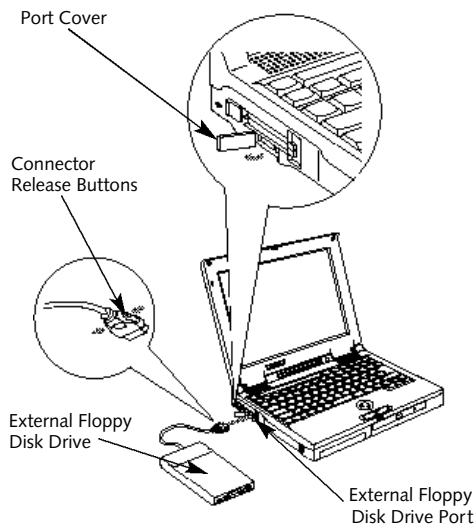

Figure 4-6 External Installation of a Floppy Disk Drive
3. Open the external floppy disk drive port cover on the left side panel of your notebook (Figure 4-6), by gently pulling on the front edge of the cover and swinging it toward the back of your notebook.
4. Align the external floppy disk drive cable with the smaller connector towards the body of your notebook with the wide side of the connector down. (Figure 4-6.)
- 3. Squeeze the releases on the sides of the external floppy disk drive cable connector together.** (The connector is next to the body of your notebook.) *(Figure 4-6.)*